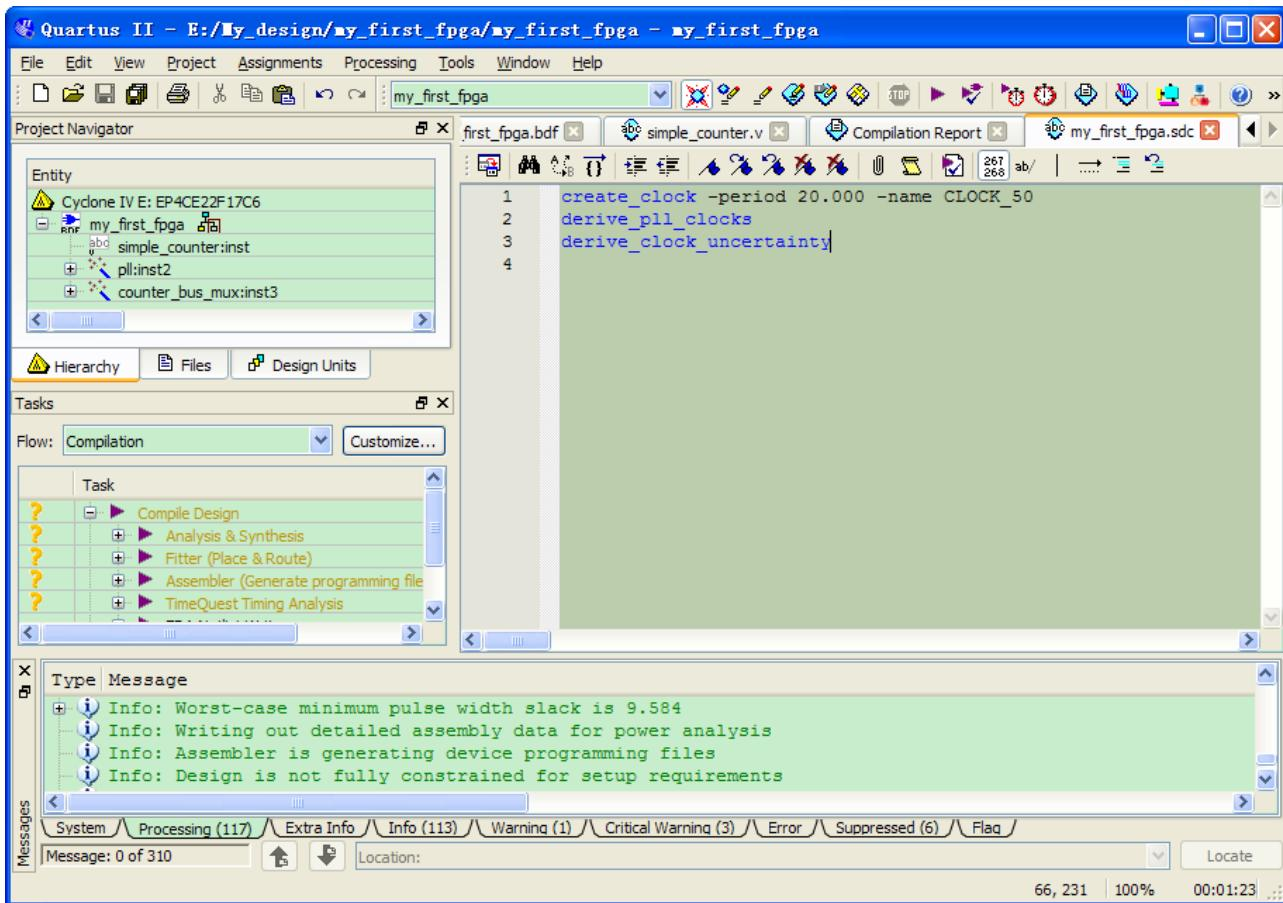

Figure 6-43 Default SDC
4. Save this file as my\_first\_fpga.sdc (see **Figure 6-43**)